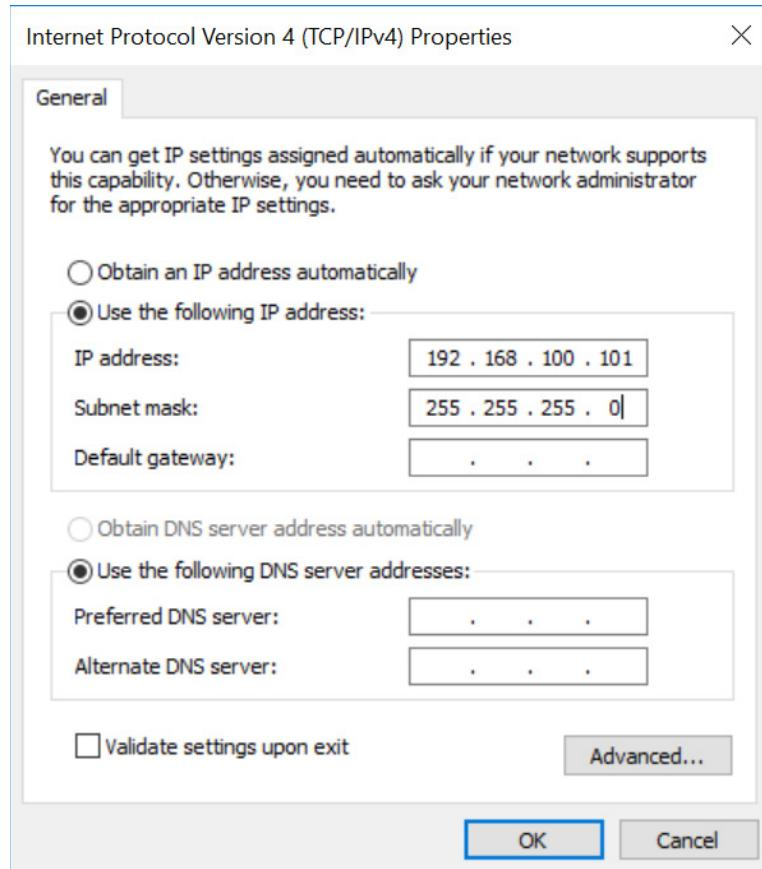

Figure 4–40: Internet Protocol Version (TCP/IPv4) Properties window
4. **Place the cursor in the Subnet mask box.** The mask 255.255.255.0 should automatically appear, as in Figure 4–43.